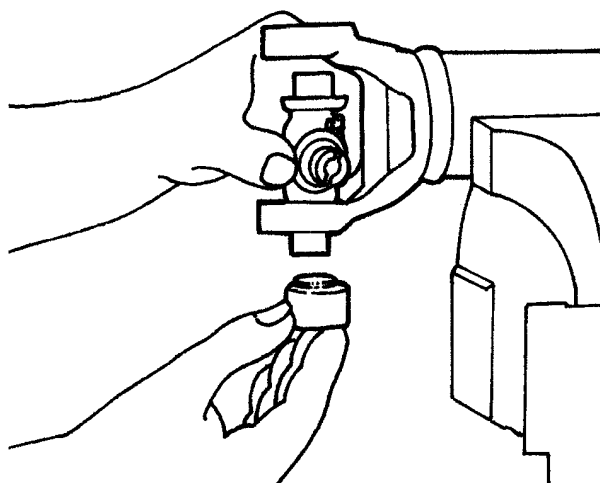

Figure 20 Place Bearing Cap onto Journal
5. Place a bearing cap onto the journal and align it to the cross hole (Figure 20).